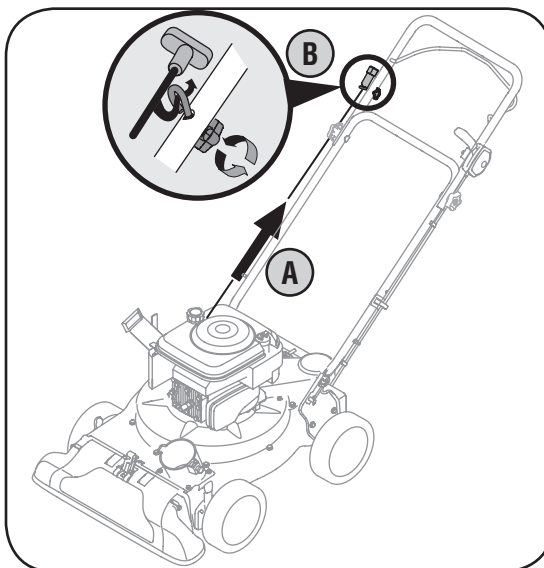

Figure 3-4
- a. Pull the starter rope out of the engine slowly. See Figure 3-4.
- b. Slip the starter rope into the rope guide. Tighten the wing nut. See Figure 3-4.